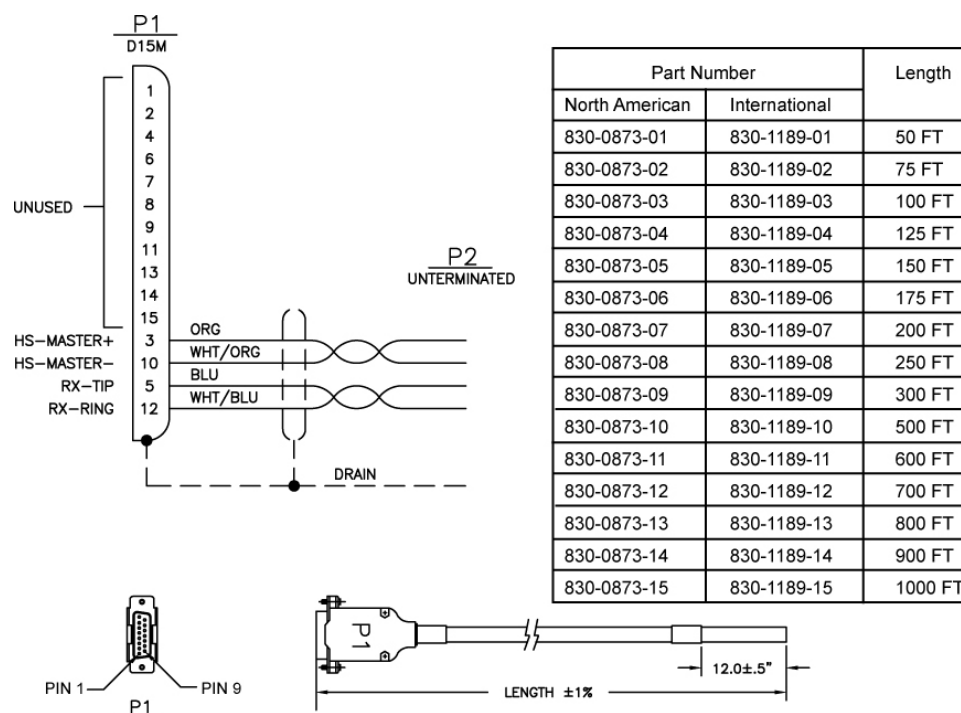

Figure 100: Wire Coding of High-Speed Master and Composite Clock Cable (P/N 830-0873-xx or P/N 830-1189-xx)
- b) Cut back any unused wires as shown in Figure 100: Wire Coding of High-Speed Master and Composite Clock Cable \(P/N 830-0873-xx or P/N 830-1189-xx\).
- b) Wire-wrap to the appropriate IDLE (primary or secondary) clock connections on the customer clock source. Refer to the cable wire coding (P/N 830-0873-xx or P/N 830-1189-xx) shown in Figure 100: Wire Coding of High-Speed Master and Composite Clock Cable \(P/N 830-0873-xx or P/N 830-1189-xx\) for connection information.